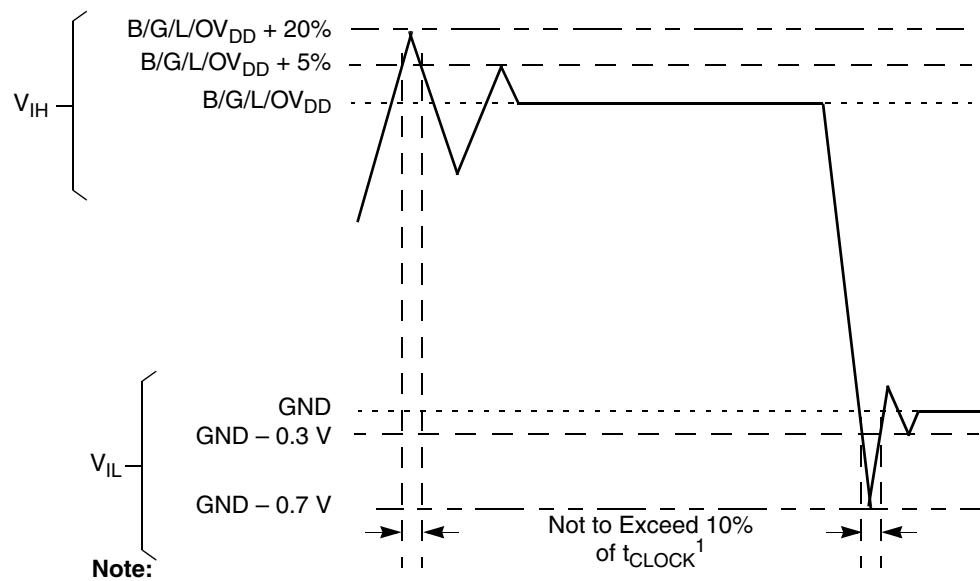

Figure 7. Overshoot/Undershoot Voltage for GV_{DD}/OV_{DD}/LV_{DD}
- (M,L,O)V_{IN} and MV_{REF} may overshoot/undershoot to a voltage and for a maximum duration as shown in Figure 7.